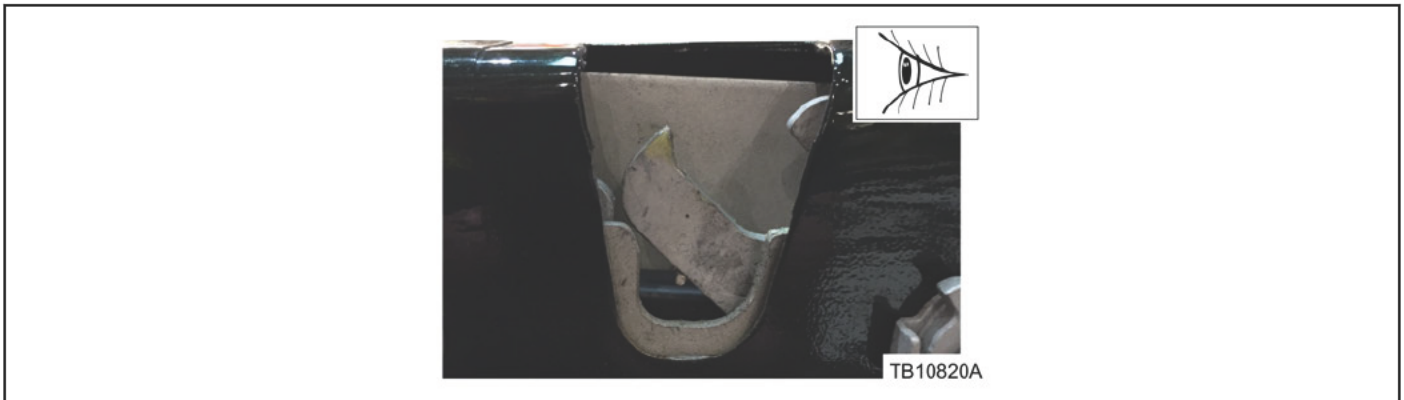

Figure 1 - Article 16-0030
1. Inspect the left and right side tailgate latch assemblies. Is there a metal back on the inside of the latch? (Figures 1- 2)